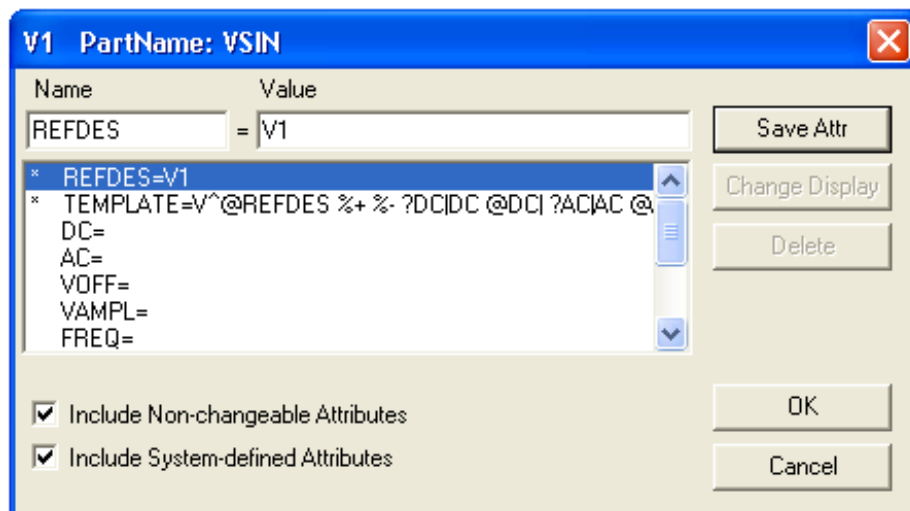

Figure 7
- The SIN type of source is actually a damped sine with time delay, phase shift and a DC offset (see Figure 7). If you want to run a transient analysis you need to use the VSIN see how AC will effect your circuit over time. Do not use this type of source for a phasor or frequency sweep analysis, VAC would be appropriate for that.